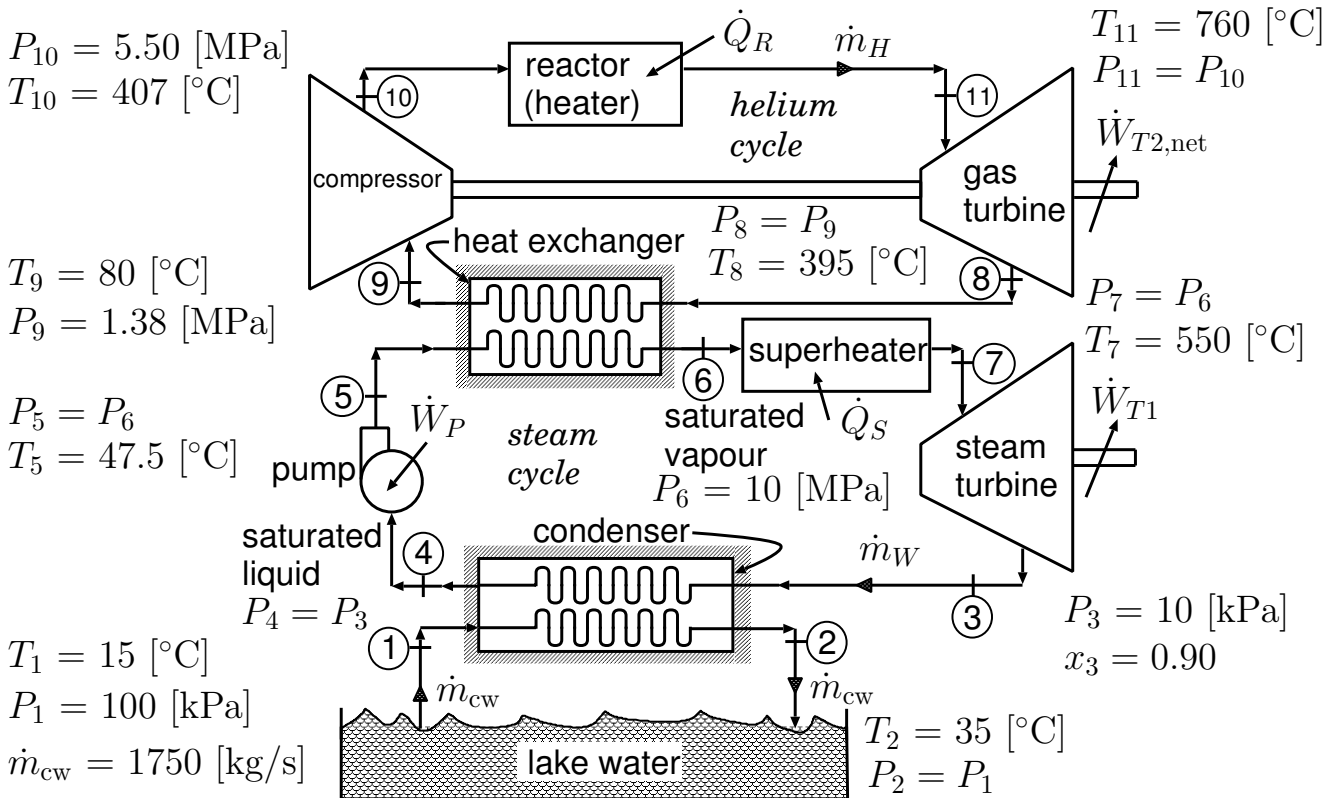

Figure 2: Figure for problem 2
2. Figure 2 shows a schematic of a combined cycle power plant in which a simple closed loop cycle using helium is added to a vapour power cycle using water. The energy source for heating the helium is a nuclear reactor. The two cycles are connected via an insulated heat exchanger. The steady-state operating conditions are shown in the figure. The water leaves the heat exchanger as saturated vapour at 10 [MPa]. The water is passed through a superheater so that it is at 550 [°C] and 10 [MPa] before entering the steam turbine. The turbine exhaust has a quality of 90% at 10 [kPa]. Saturated liquid leaves the insulated condenser and enters the pump, where it exits at 47.5 [°C] and 10 [MPa]. In the condenser, the energy from the water in the power loop is transferred to cooling water drawn from a lake. The temperature of the cooling water rises from 15 [°C] to 35 [°C] as it passes through the condenser and its mass flow rate is 1750 [kg/s]. The helium exits the heat exchanger at 1.38 [MPa] and 80 [°C]. After passing through the compressor, the helium is at 5.50 [MPa] and 407 [°C]. The helium passes through the reactor and is heated to 760 [°C] with negligible pressure change. After expanding through the gas turbine, the helium is at 1.38 [MPa] and 395 [°C]. The gas turbine shaft work output is used to drive the compressor and to produce a net power output. The compressor, turbines, and pump are also insulated (*i.e.*, adiabatic). Neglect changes in potential and kinetic energies.